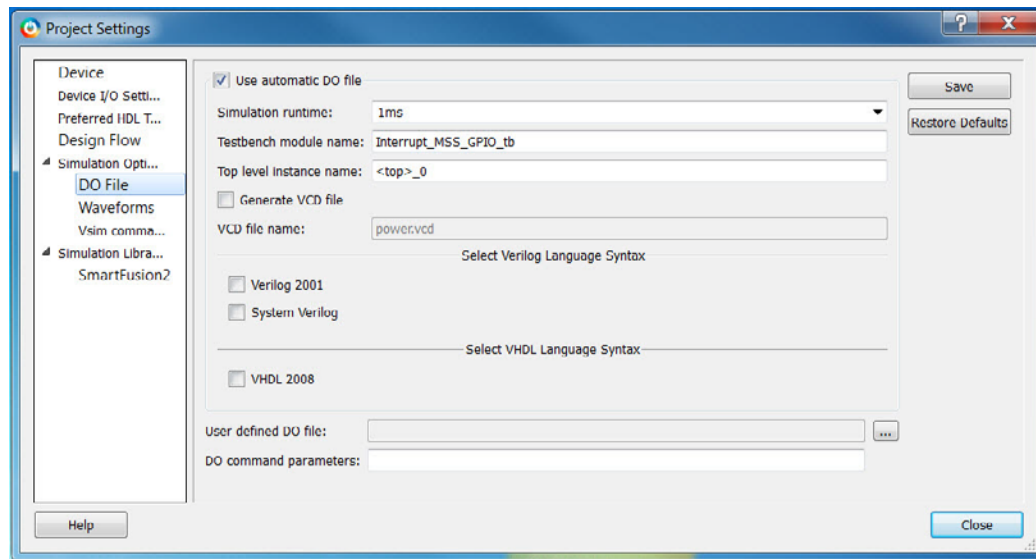

Figure 4-2 • Project Settings Dialog Box
2. From the **Project** menu, choose **Project Settings** and choose **DO File** under **Simulation Options**. Under **Simulation Runtime**, enter a value of **1ms** (Figure 4-2).